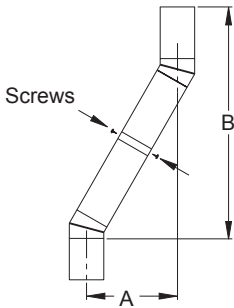

Figure 9 - Elbow Offset
Continue to assemble chimney sections as outlined above, making sure both inner and outer pipe sections are locked together. When installing double wall snap-lock chimney together, it is important to assure joint between chimney sections is locked. Check by pulling chimney upward after locking. Chimney will not come apart if properly locked. It is not necessary to add screws to keep chimney together (exception, see Figure 9, page 8).
- All pipe connections between the offset and return must be secured with two screws on the outer pipe only (see Figure 9, page 8). Do not penetrate the inner stainless.